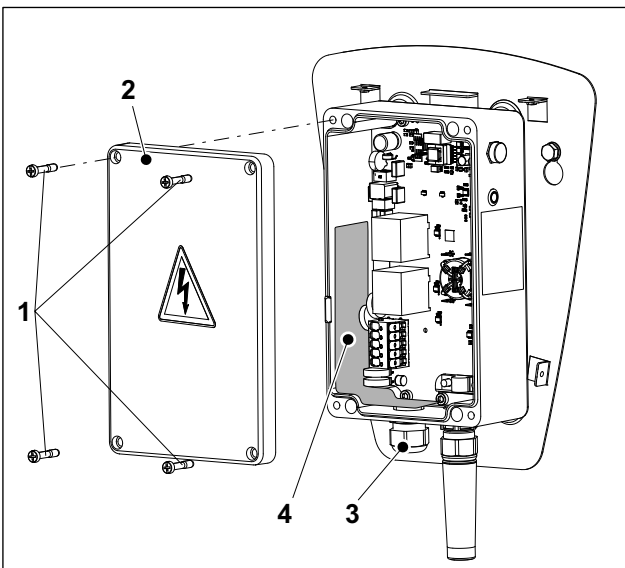

Fig. 4 Heidelberg Wallbox Home Eco, opened electronics housing
1. Remove the four screws (Fig. 4/1) and take off the cover of the electronics housing (Fig. 4/2).
2. Screw the cable gland ESKV25 (enclosed accessories) with the respective gasket EADR25 (enclosed accessories) into the electronics housing (Fig. 4/3) and tighten (approx. 8 Nm).
5. Follow the instructions on the sticker (Fig. 4/4) and then pierce the sticker on the cable entry.
9. Replace the lid of the electronics housing (Fig. 4/2) and tighten the four screws (2.5 Nm).